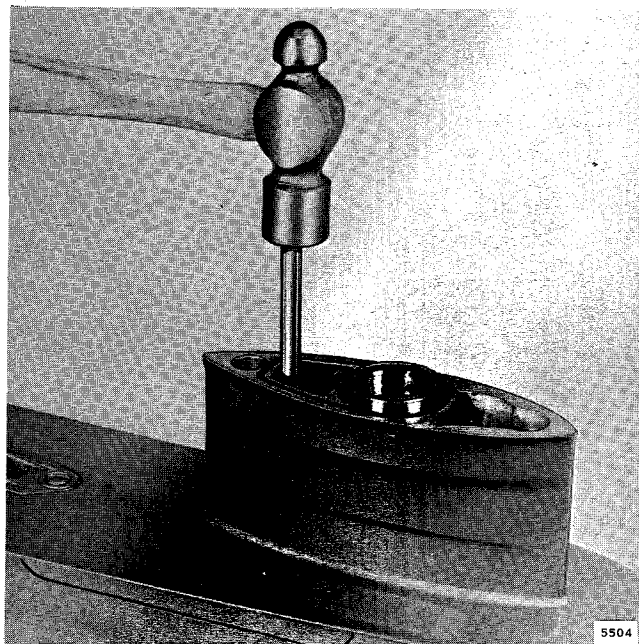

Figure 6-15. Driving Out Shift Rod Bushing
e. Separate upper and lower gearcases enough to remove nut and screw holding shift rod to yoke. Pull upper gearcase off of studs and remove shift rod. Turn slightly as bends in rod tend to bind if pulled straight out. NOTE: Remove carbon from shift rod and lubricate with oil before removing shift rod from upper gearcase. Remove shift rod bushing, "O" ring and gasket using bushing punch (Evinrude Special Tool #378778). Drive out from bottom to top. See Figure 6-15.